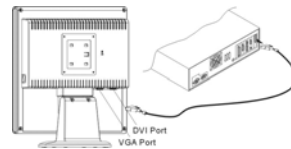

Figure 1-5
2. Connect one end of the signal cable to the LCD Monitor's VGA port or DVI port. (For AL712/AL713) (See Fig 1-5)